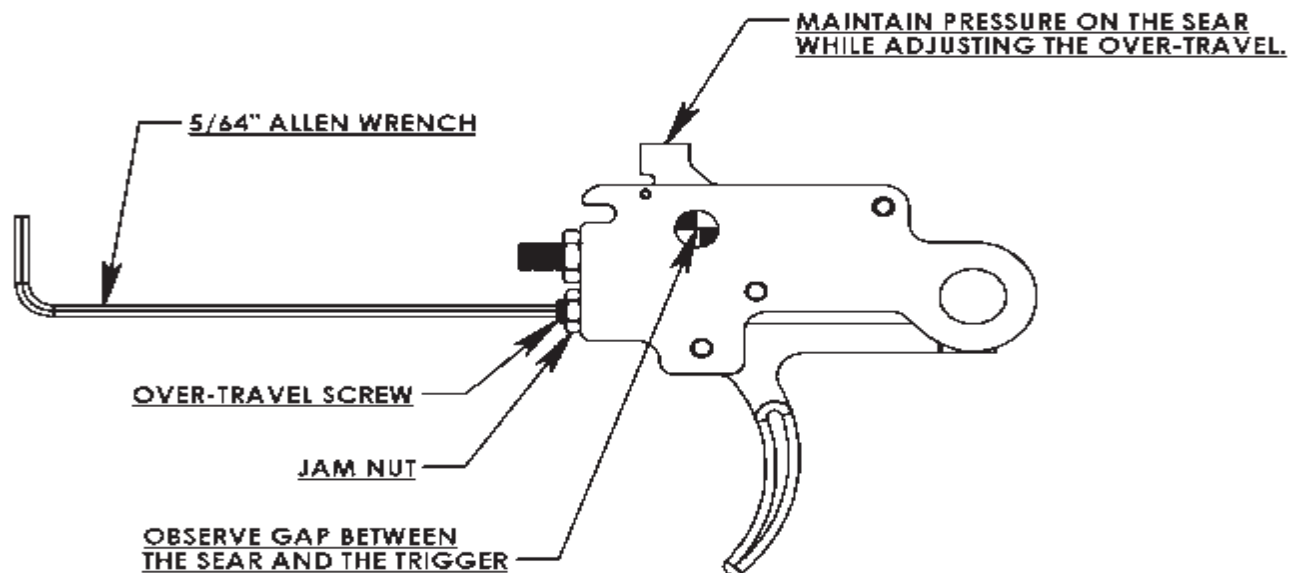

Figure 34.
4. Turn the screw until the desired over travel is achieved and lock into place by turning the brass jam nut clockwise until it is tight against the trigger housing. (*Figure 34.*)